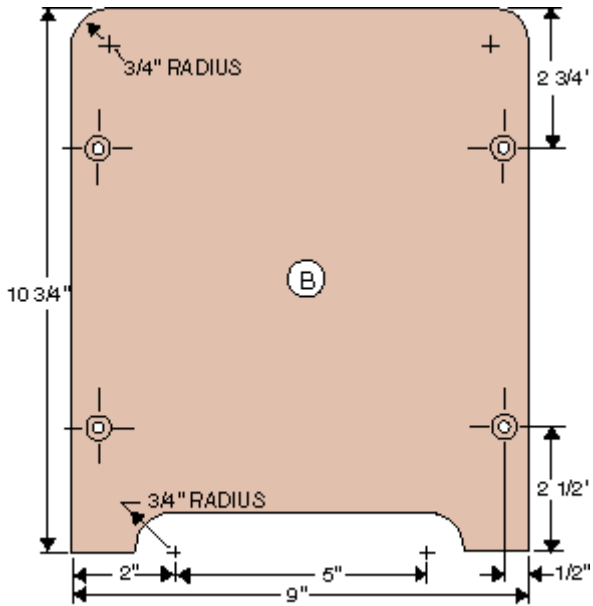

FIGURE 2
Cut the two ends (B), following the dimensions on the Bill of Materials. Use your bandsaw, scroll saw, saber saw or disc sander (with coarse paper) to form the 3/4" radii on both ends, as shown in Fig 2.
Locate the positions for the #8 x 1-1/4" flathead wood screws in the ends (B) as shown in Fig 2. Use your drill press to bore a 3/8" diameter x 1/4" deep counterbore at each location. Dry assemble the rack together as shown and clamp it temporarily together using bar clamps or pipe clamps. Use your portable electric drill to bore a 1/8" diameter pilot hole through the sides (B) at the same location and into the middle of the ends of each rail (A).